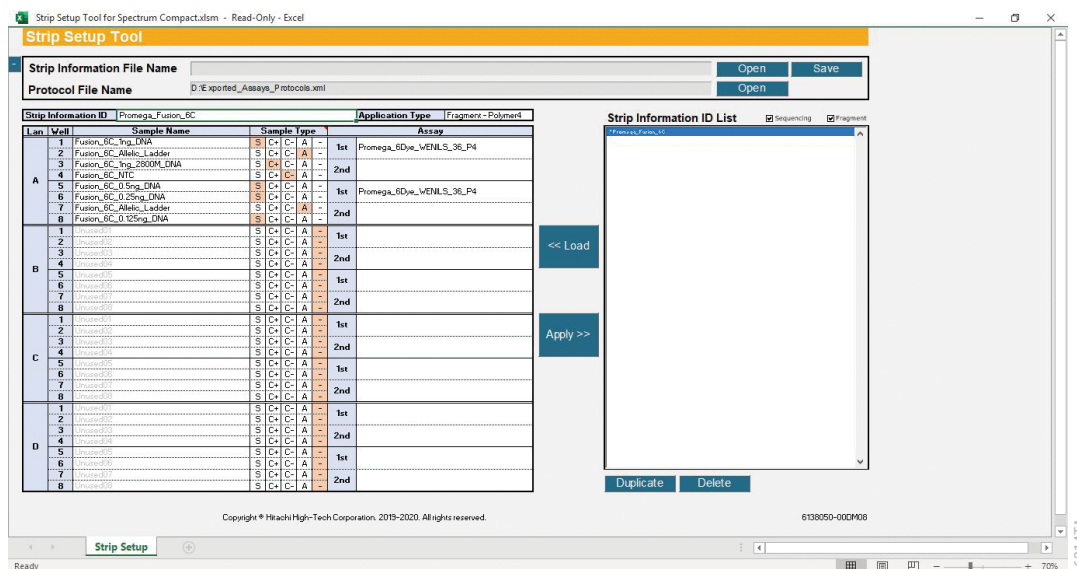

Figure 247. 'Strip Setup Tool for Spectrum Compact' with new strip in Strip Information ID List.
6. Select **Apply** to move the newly created strip information to the Strip Information ID List. The name of the newly created strip will appear in this list (Figure 247).